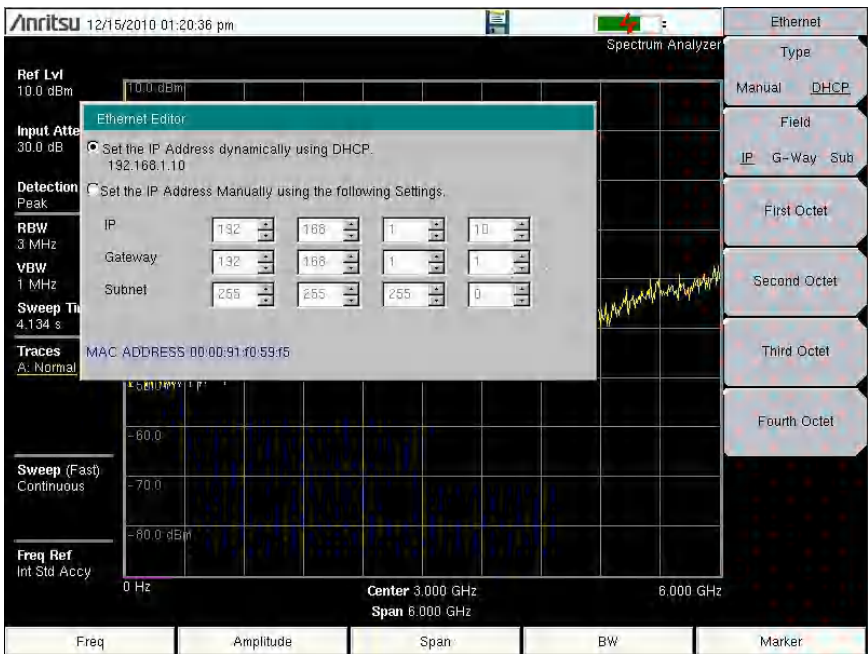

Figure 6-1. IP Address Assigned Using DHCP
To display the IP address with the instrument on, press the **Shift** key, then the **System** (8) key, then the System Options soft key and the Ethernet Config soft key. The IP address will be displayed as shown in Figure 6-1. The image on the display panel of your LMR Master may differ from the image shown here.